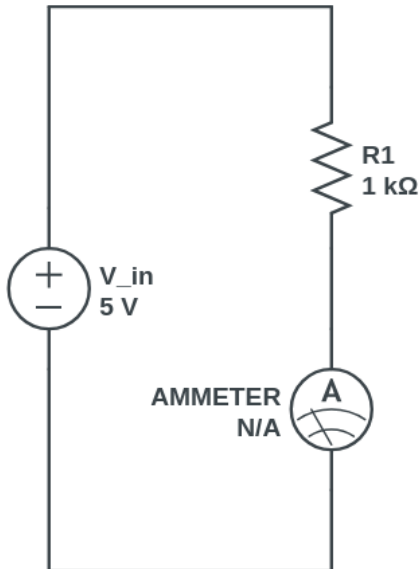

Figure 5: Ammeter operation
5. Replace the negative bus connection with a connection one end of the DMM ammeter. This puts the ammeter in-series with the resistor. Use the circuit diagram in Figure 5 for reference.